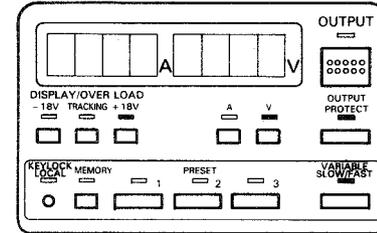

Fig. 10
- 1) Set the LEDs as indicated in Figure 10. Always make sure that the OUTPUT LED ⑬ is not lit.
- 3) Press the A KEY ⑥ and turn the Rotary Encoder to set a positive current limit value.
- 4) Press - 18V KEY ⑧ and turn the Rotary Encoder to set a negative current limit value.
- 5) Press the V KEY ⑤ and turn the Rotary encoder to set a negative voltage value.
- 6) Press the MEMORY KEY ⑪ and confirm that the VARIABLE LED ⑩ goes off.
- 7) If one of the PRESET KEYS (1,2,3) ⑫ is pressed, the MEMORY LED ⑪ goes off and the LED of the selected PRESET KEY lights up. An arbitrarily entered value is stored in the selected PRESET key at this time.